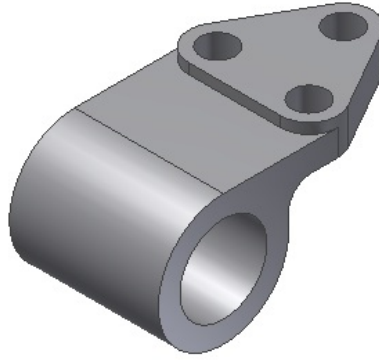

Figure 9-99 Holes created on the model
12. Create three holes of 12 mm diameter on the triangular face of the model by using the Hole tool. You can use the rounded faces of the triangular feature as the concentric references for the holes. Figure 9-99 shows the model after creating the holes.